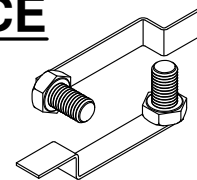

Figure F1.
1. **Locate the bolt guides.** Locate the two 5/8" x 1" long bolts that are welded to thin straps (bolt guides), see Figure F1.